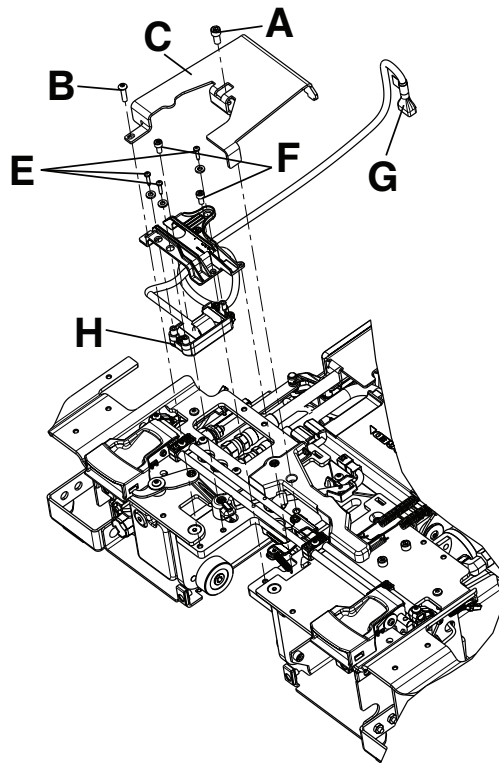

Figure 28 – Inductive coil assembly
2. Using a 5/32" hex wrench, remove the screw (A) that secures the inductive coil assembly to the frame (Figure 28). Save the screw.
3. Using a 3/16" hex wrench, remove the screw (B) that secures the inductive coil assembly to the frame (Figure 28). Save the screw.
4. Remove and save the cover (C) (Figure 28).
6. Using a T25 Torx driver, remove the screws (E) that secure the charge bracket (Figure 28). Save the screws.
7. Using a 5/32" hex wrench, remove the screw (F) that secures the charge bracket (Figure 28). Save the screw.
9. Unplug the cable (G) from the trolley control board and remove the inductive coil (H) (Figure 28). Discard the inductive coil.